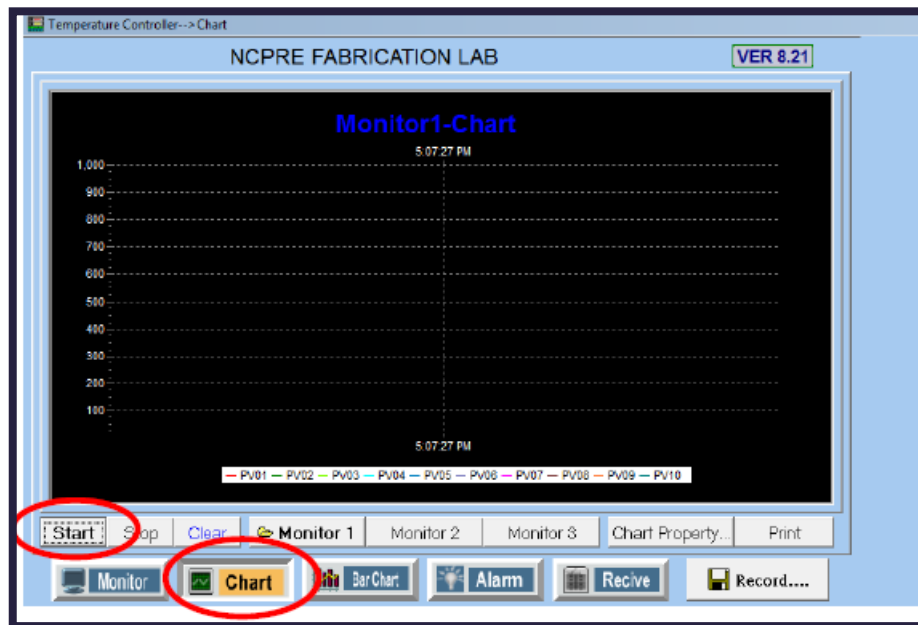

Figure. 26
17. Click on "OK" in both the windows and on "Start" in the main window of the "Chart" tab and then the recording of the temperature data will start. Time starts appearing in "Monitor 1-Chart" window along with temperature(Figure. 26).